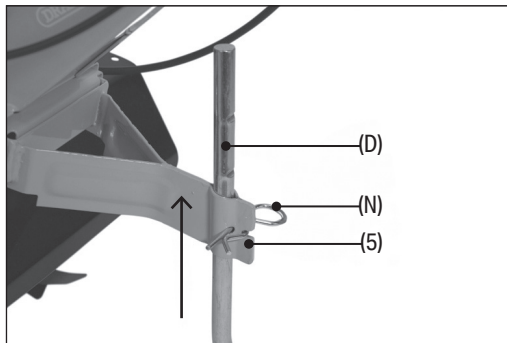

Fig. 1
1. Attach the drag bar (D) (Fig. 1):
- a. Insert the long end of the drag bar up through the drag bar socket (5) so that the lowest of the three grooves is aligned with the pin socket.
- b. Insert the drag bar attachment pin (N) through the opening in the side of the drag bar socket to secure it in place.